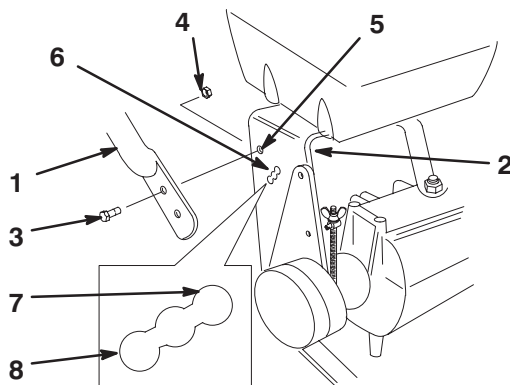

Figure 4
1. Align upper handle with upper mounting holes in rear frame (Fig. 4).
2. Secure each upper mounting hole with a flange bolt (3/8 x 1 in. (26mm)) and flange nut (Fig. 4). Torque bolts to 25 ft. lbs. (34 N.m).
3. Select high, medium or low position for the lower mounting hole (Fig. 4). This allows the upper handle to be adjusted to the user's height preference.
4. Secure each lower mounting hole with a flange bolt (3/8 x 1 in. (26mm)) and flange nut (Fig. 4). Torque bolts to 25 ft. lbs. (34 N.m).